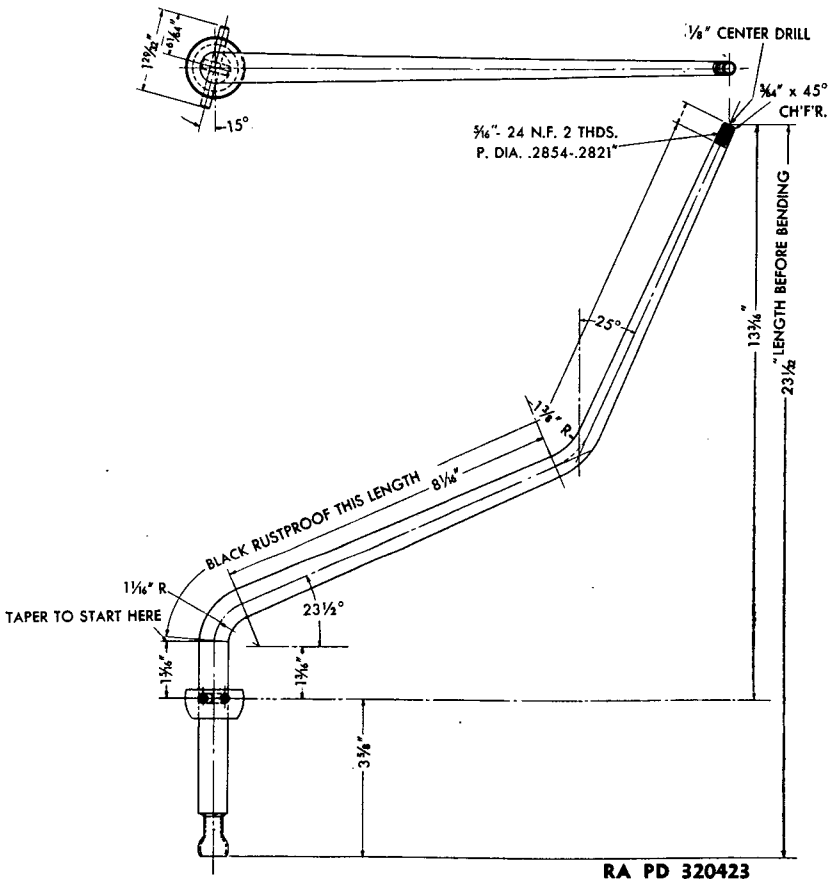

Figure 14 — Modification Diagram for Transmission Shift Lever
b. Modification. The lever modification details are completely outlined in figure 14 with proper dimensions. Heat lever locally to make bends.